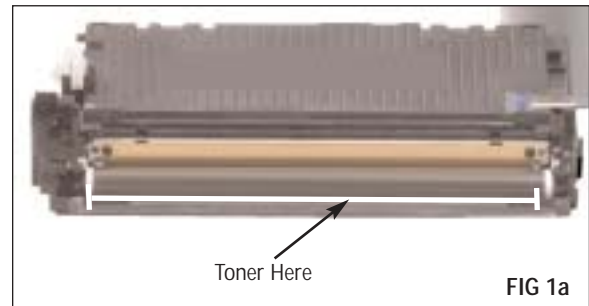

FIG 1a
- Toner: Thoroughly shake toner in its container for improved flow and charging properties before measurement or filling the cartridge. Measure 2g of black toner (or 1g of colored toner) onto a small piece of paper approximately 4" x 4". Uniformly distribute the toner into the valley where the developer roller contacts the developer roller sealing blade, along the entire length of the roller. Toner should be applied evenly between centers of end felts. (See Figure 1a)